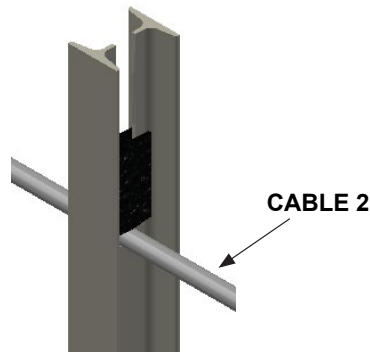

Figure 20
4. Place Cable 2 in the notch at top of the post (See Figure 20). Place a spacer (PN: 005700B (black), PN: 005701B (yellow) or PN: 005702B (white)) on top of the cable.